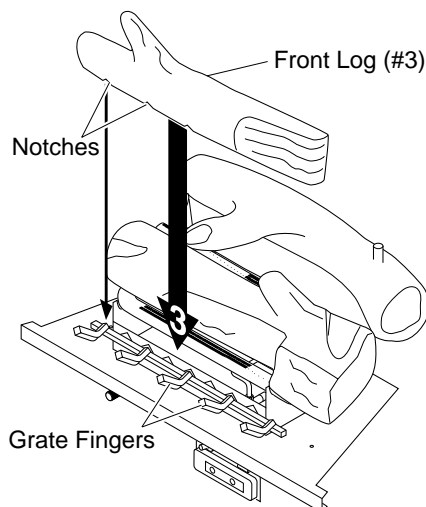

Figure 46 - Installing Front Log (#3)
3. Locate the notches in the bottom of the front log (#3). Place the front log on the grate fingers. Make sure the notches of the front log line up with the grate fingers (see Figure 46).